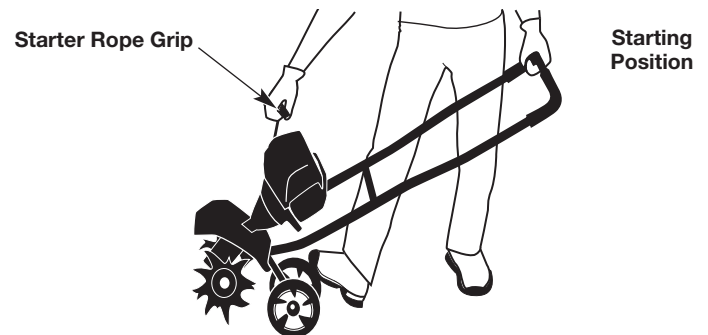

Fig. 10
WARNING: Avoid accidentally starting the unit. To avoid serious injury, the operator and the unit must be in a stable position when pulling the starter rope (Fig. 10).
WARNING: The tines may rotate during the starting process. Always stand in the starting position. Use one foot to hold the wheels in place. Tilt the unit back slightly to bring the tines off the ground (Fig. 10).
2. Stand in the starting position (Fig. 10). Hold the handlebar firmly with one hand. Hold the starter rope with the other hand. Use one foot to hold the wheels in place.
3. Tilt the unit back slightly to bring the tines off the ground (Fig. 10).
4. Pull the starter rope with a controlled and steady motion until the unit starts (Fig. 10).
2. Stand in the starting position (Fig. 10). Hold the handlebar firmly with one hand. Use one foot to hold the wheels in place.